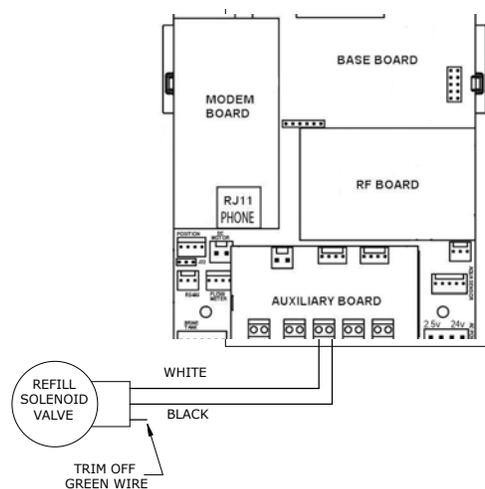

Figure 16.
1. Wire the valve to Aux Out 2 as shown in the diagram in Figure 16.